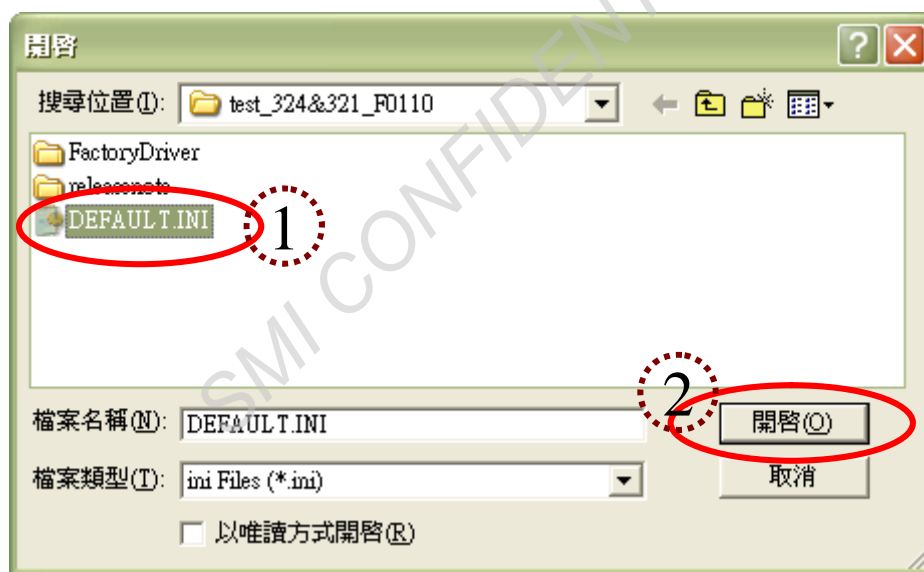

Fig. 3 Loading the INI file for 「Setting Function」.
■ Loading the INI File:(see the Fig. 3)